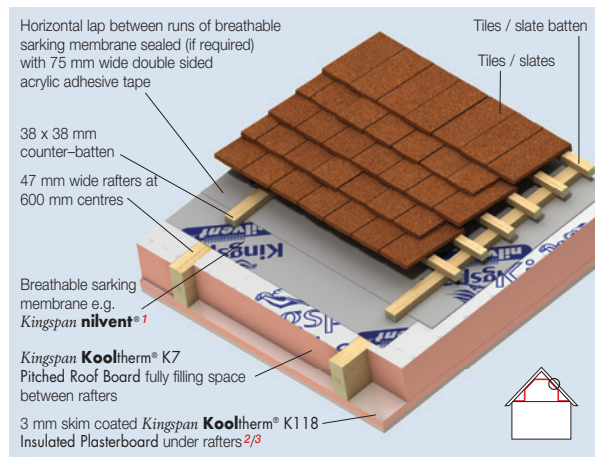

Figure 1a
*NB When calculating U-values to BS EN ISO 6946: 2017 / I.S. EN ISO 6946: 2007, the type of mechanical fixing used may change the thickness of insulation required. The effect of fixings for Kingspan **Kooltherm**® K118 Insulated Plasterboard in the U-value calculations for Figures 1a, 1b, 1c, 1d, 2a, 2b, 4a & 4c is insignificant as the insulation layer penetrated is not the main insulation layer. The U-value calculations for Figures 3a & 3b assume that over rafter layers of insulation are fixed using stainless steel fixings with a cross sectional area 7.45 mm², with 3.7 fasteners per m² (insulant thickness 0–40 mm), 6.2 per m² (insulant thickness 41–60 mm), 8.3 per m² (insulant thickness 61–80 mm) and 10.0 per m² (insulant thickness 81–100 mm). The U-value calculations for Figures 3a & 3b also assume that over rafter layers of insulation are fixed using stainless steel fixings with a cross sectional area 9.1 mm², with 11.1 fasteners per m² (insulant thickness 101–125 mm). Please contact the Kingspan Insulation Technical Service Department (see rear cover) for project calculations.*
- ¹ In Figures 1a & 3a the breathable sarking membrane can be placed over the counter-battens, draped to provide for drainage and overlain with tile / slate battens. This will yield a marginally better U-value but it will be more difficult to seal the breathable sarking membrane effectively.